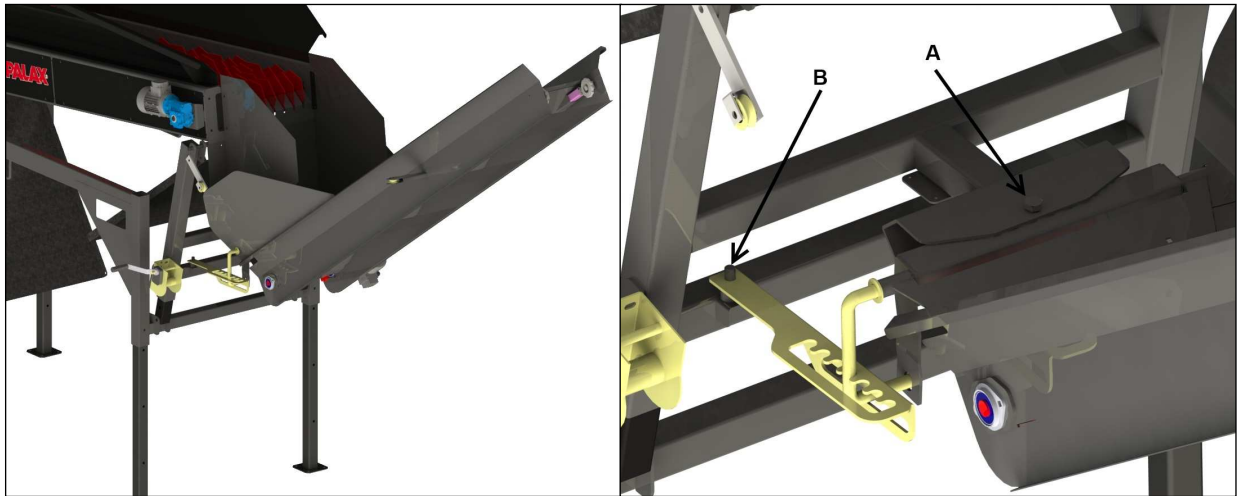

Figure 4.
- Attach the conveyor to its support through hole (Figure 4.) A
- Attach the conveyor locking lever to its support from point (Figure 4.) B